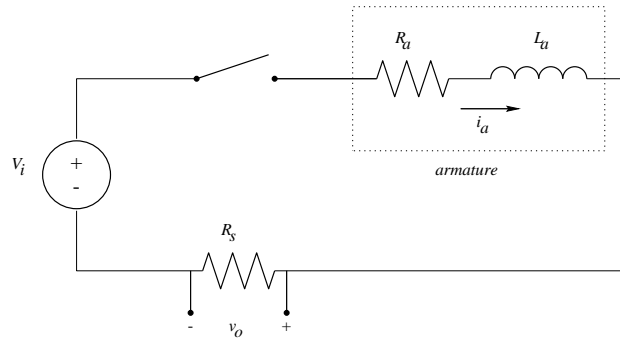

Figure 4.4: Motor Electrical Diagram with flywheel clamped.
- (a) The DC motor, *with the flywheel clamped* ($\omega = 0$), is described by the electrical schematic of Figure 4.4.